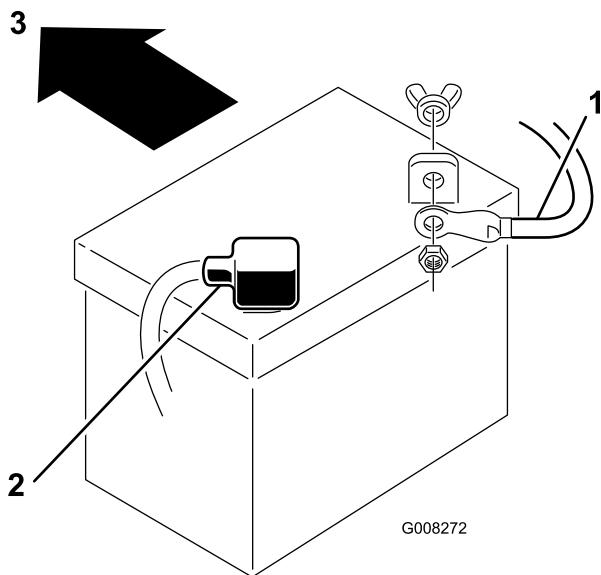

Figure 29
7. Disconnect the negative (black) ground cable from the battery post (Figure 29).
9. Disconnect the positive (red) cable from the battery post (Figure 29).
1. Place the battery into the chassis with the battery posts toward the rear of the machine (Figure 29).
3. Using the bolt and wing nut, connect the positive (red) cable to the positive (+) battery post (Figure 29). Slide the rubber cover over the battery post.
4. Using the bolt and wing nut, connect the negative (black) cable to the negative (–) battery post (Figure 29). Slide the rubber cover over the battery post.